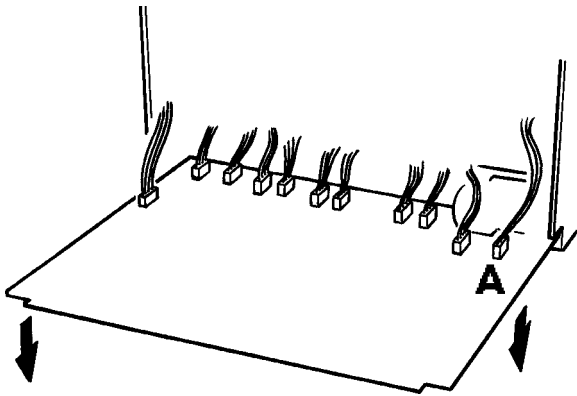

Fig6a Connector removal (Continuous-trace recorders)
7. Turn the recorder the right way up again and remove all remaining connectors from the control board as shown in figures 6a/6b. Note connector A in the figures.
12. Before mechanically fixing the new control board to the recorder chassis, reconnect all the connectors (except connector A in figures 6a/b) (See note below).